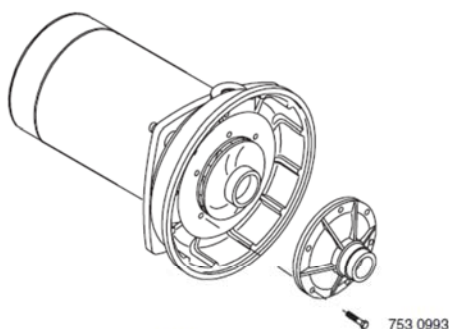

Figure 20 – Remove Diffuser
1. Remove four screws fastening diffuser to seal plate; remove diffuser (see Figure 20). Exposed impeller can now be cleaned.